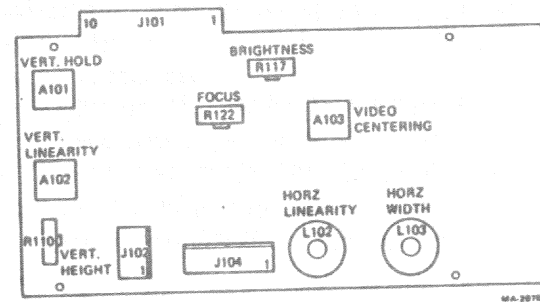

Figure 4-3 Ball Video Monitor Board Adjustment
3. Adjust R117 (Figure 4-3) until the display raster is visible; then turn R117 in the opposite direction until the raster disappears.
3. Adjust R122 (Figure 4-3) for the best overall character display.